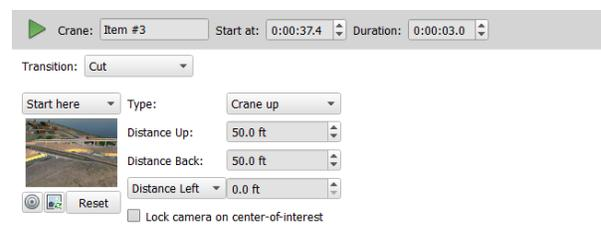

Figure 29
16. In the keyframe settings do the following, as shown in Figure 29.